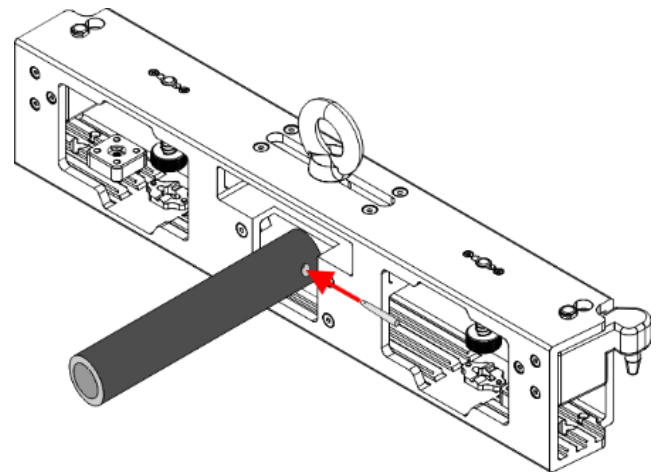

Fig. 15
- 02) Push the conical pin through the opening on the truss, as shown in Fig. 15.